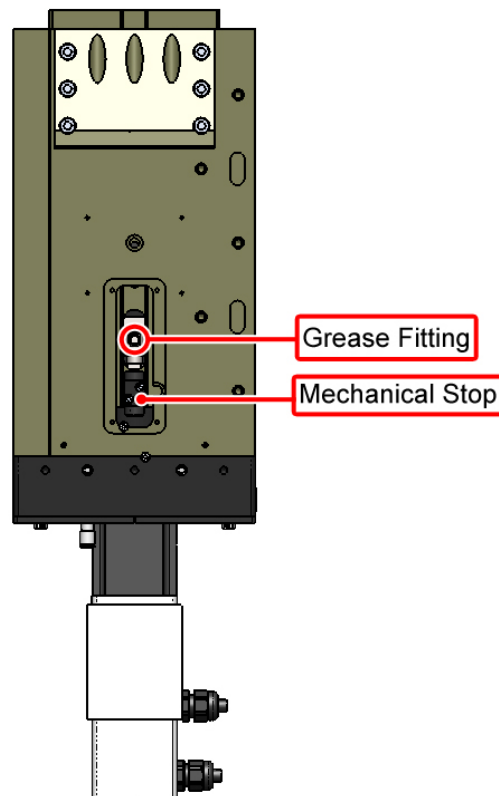

Figure 4-3: Grease Fitting and Hard Stop Location
3. The ballnut and grease fitting should be visible through the window as shown in Figure 4-3. Engage a grease gun with appropriate attachment over the ballscrew's grease fitting. AirLift 115 stages use grease fitting THK# C-MT6x1, and THK's grease gun MG70 with a Type H attachment is recommended.